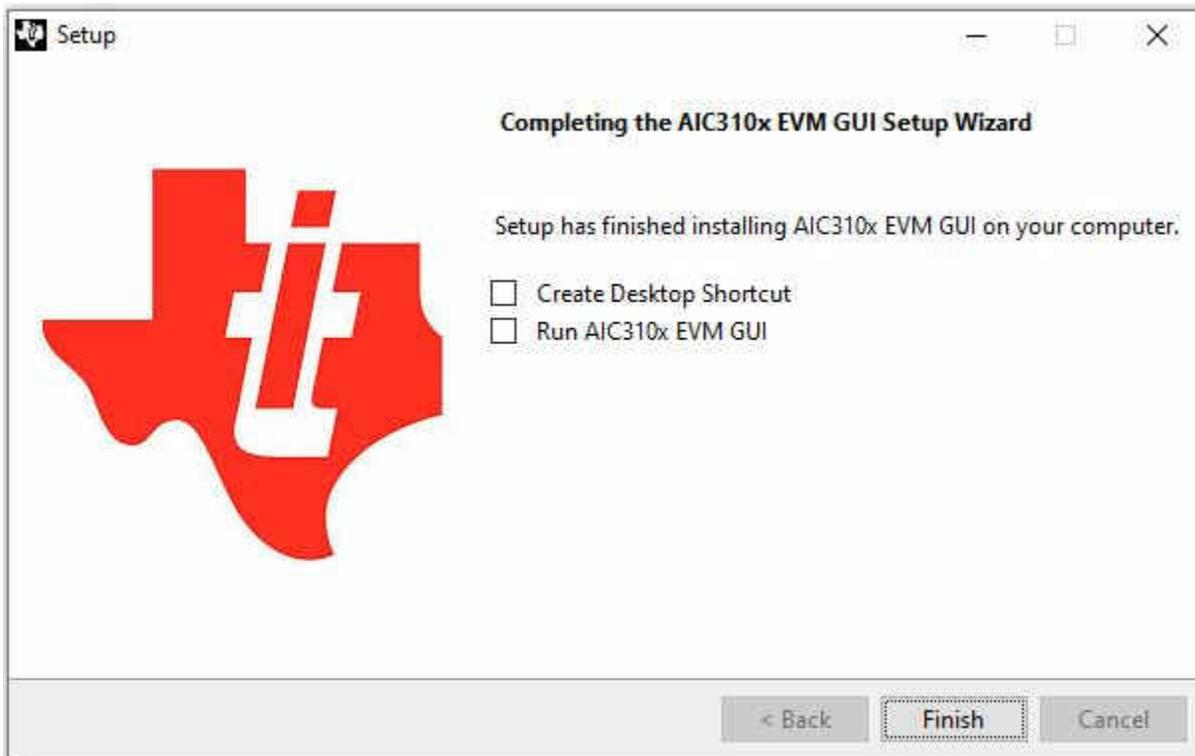

Figure 1-11. Setup Finished
- The setup has now finished (Figure 1-11). Check whether you wish to have a shortcut created and run the AIC310x EVM GUI or click *Finish* to end installation.